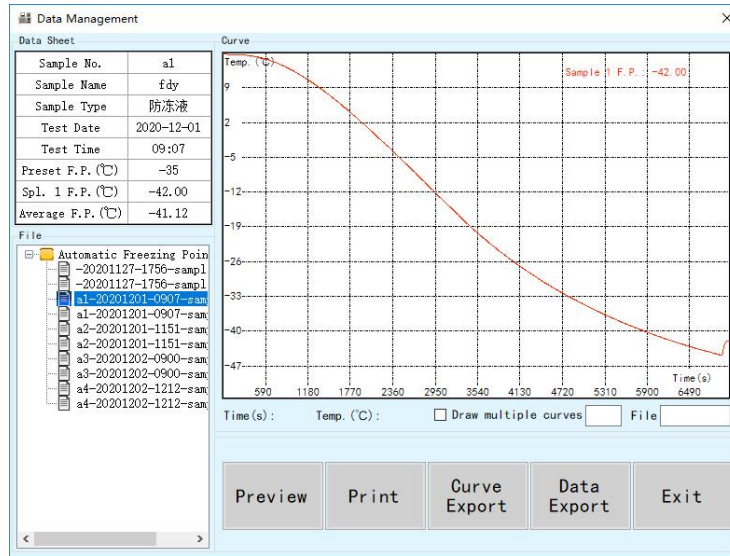
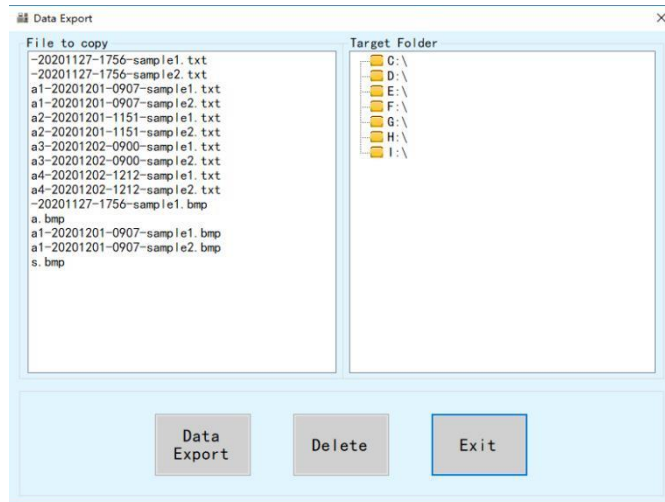

Fig.11
Fig.12
13. The test data record appears again. Click "Data management" on the home page to enter the test data query and print interface (Figure 11).
14. Click "Export" in Fig. 11 to enter the data deriving interface (as shown in Fig. 12). First, select the test results to be derived from the data file on the left, then select the folder path to be imported from the target folder on the right, and then click "Export" to complete the data file export. To delete data, select the data file to be deleted and click "Delete" to delete data. (Note: Delete data with caution)